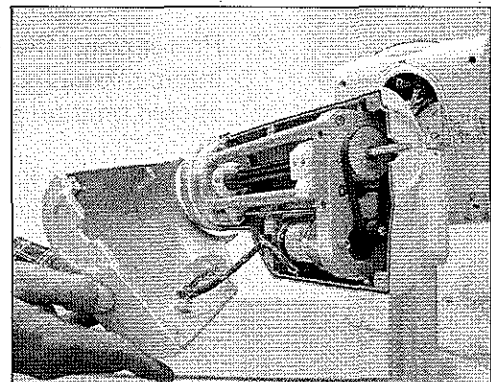

Figure 4-7b: Removing the Rear Enclosure
- c. Gently slide the Rear Enclosure towards the rear of the Injector Head and pull away a few inches (see Figure 4-7b).